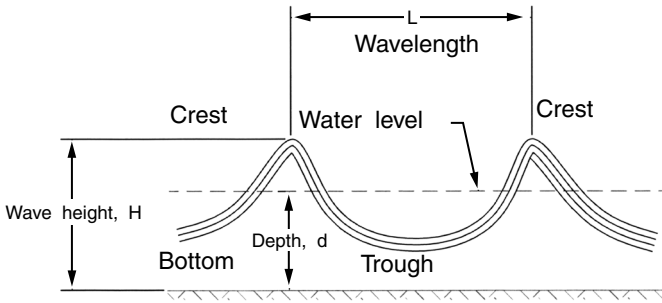

FIGURE W-1 Wave characteristics.
**Wave** An oscillatory movement, in the form of a moving ridge or swell, that causes the surface of a body of water to rise and fall. *See* Figure W-1; coastal hydraulics. The main characteristics of a wave are **wave amplitude** or **wave height H** (the distance from crest to trough); **wave celerity c** (the ratio of the wave length  $L$  to the wave period  $T$ ), also called **phase velocity**; **wave crest**, the highest point of the moving ridge; **wave frequency  $1/T$** , the inverse of the wave period; **wavelength L**, the distance from crest to crest; **wave number k**, the ratio of  $2\pi$  to the wavelength, i.e.,  $k = 2\pi/L$ ; **wave period T**, the time interval between the passage of two